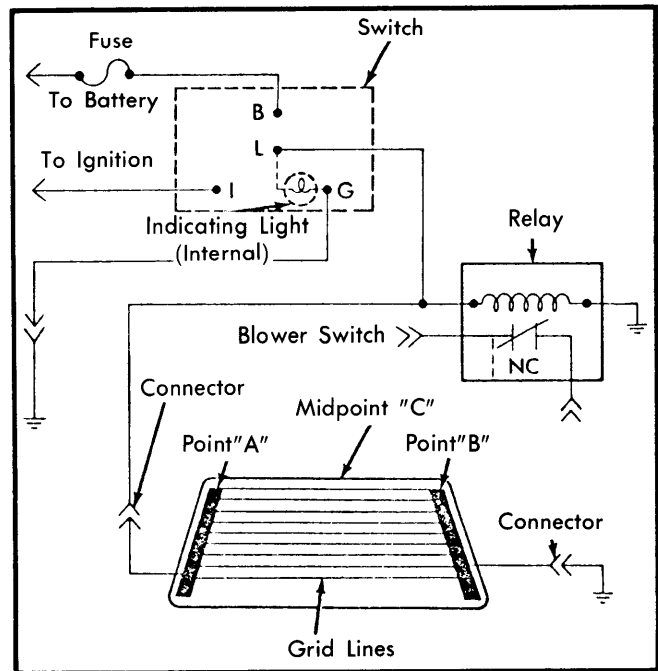

Fig. 2 Chrysler St. Regis, Newport & New Yorker Heated Rear Window Wiring Diagram
4) If system still does not operate, check leads and grid lines at rear window. Turn ignition and control switches on, attach a voltmeter between points "A" and "B" (see Fig. 2). Voltage reading should be 10-14 volts, if lower, check ground connections. With voltmeter connected at "B", measure grid voltages at midpoint "C". Voltage should be approximately six volts, a reading of zero volts indicates a break between point "A" and midpoint "C". A reading of 12-13 volts indicates a break between midpoint "C" and "B".